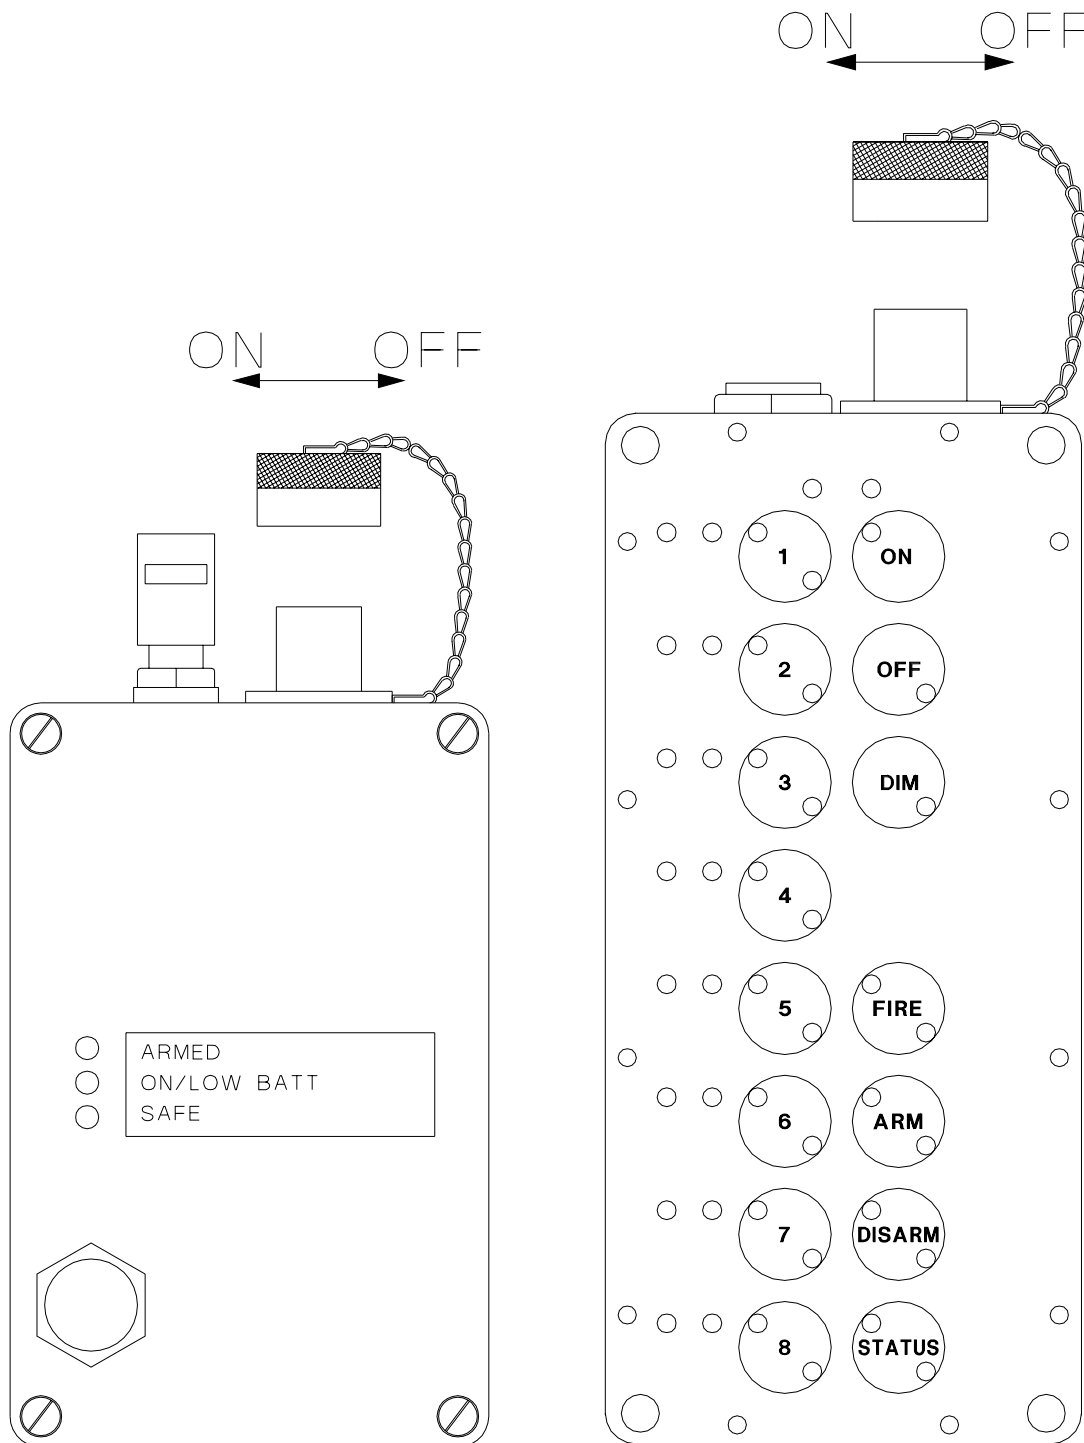

Figure 2-10 Connector Dust Cover Operation.
2.11.1. Figure 2-10. The Controller Unit and Detonator Unit antenna / battery charger connector dust cover protects the connector pins from shorting out and damage when the Antenna Assembly or Battery Charger Assembly is not connected. The connector dust cover should be connected to the connector when the connector is not in use.